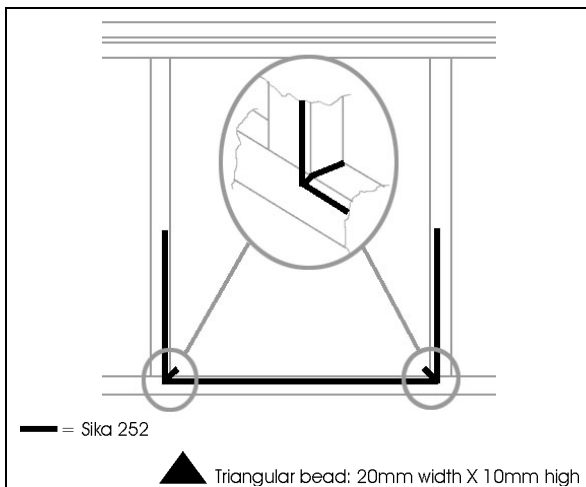

FIGURE 78 : SLIDING WINDOW - SIKA 252 APPLICATION
4. Apply Sika 252 as per FIGURE 78 (triangular bead: 20mm width X 10mm high [13/16"X 3/8"]).